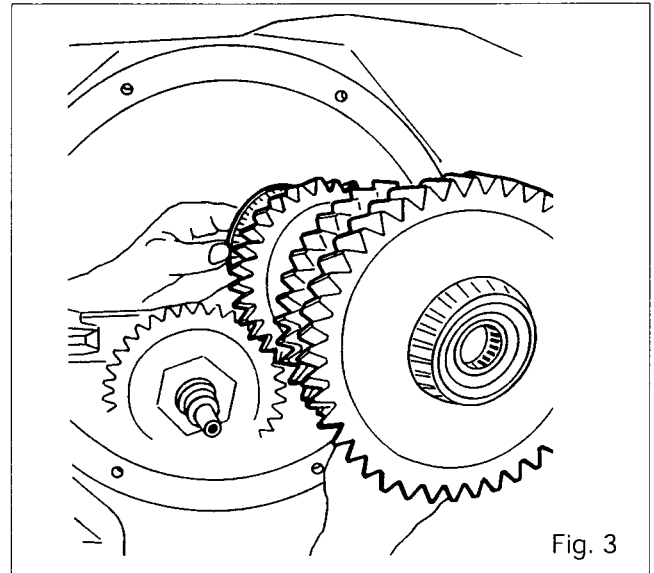

Fig. 3
6. Remove the deflector (50), the shims (51) and the cup (52). Withdraw the shaft assembly (Fig. 3).
7. Extract the bearing cones (53) and (63).
8. Remove the circlip (61).
9. Remove the 2nd gear (59), the shims (58), the 1st gear (60) and the spacer (57).
10. Remove the 4th gear (56), the spacer (82) and the 3rd gear (55).
11. Drive out the needle-roller bearing (62) and discard it.
18. Remove the circlip (61) and the gear (59).
20. Use the press and a suitable fixture to fit the cones (63) and (53).
21. Reinstall the assembled shaft and the cup (52).